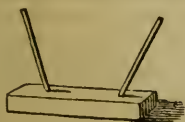

Fig. 176.
*To pack a bundle*, first provide two simple blocks of wood, like that shown in fig. 176, into which two diverging stakes are inserted, loosely, so as to be withdrawn easily. Place these a few feet apart, to form the